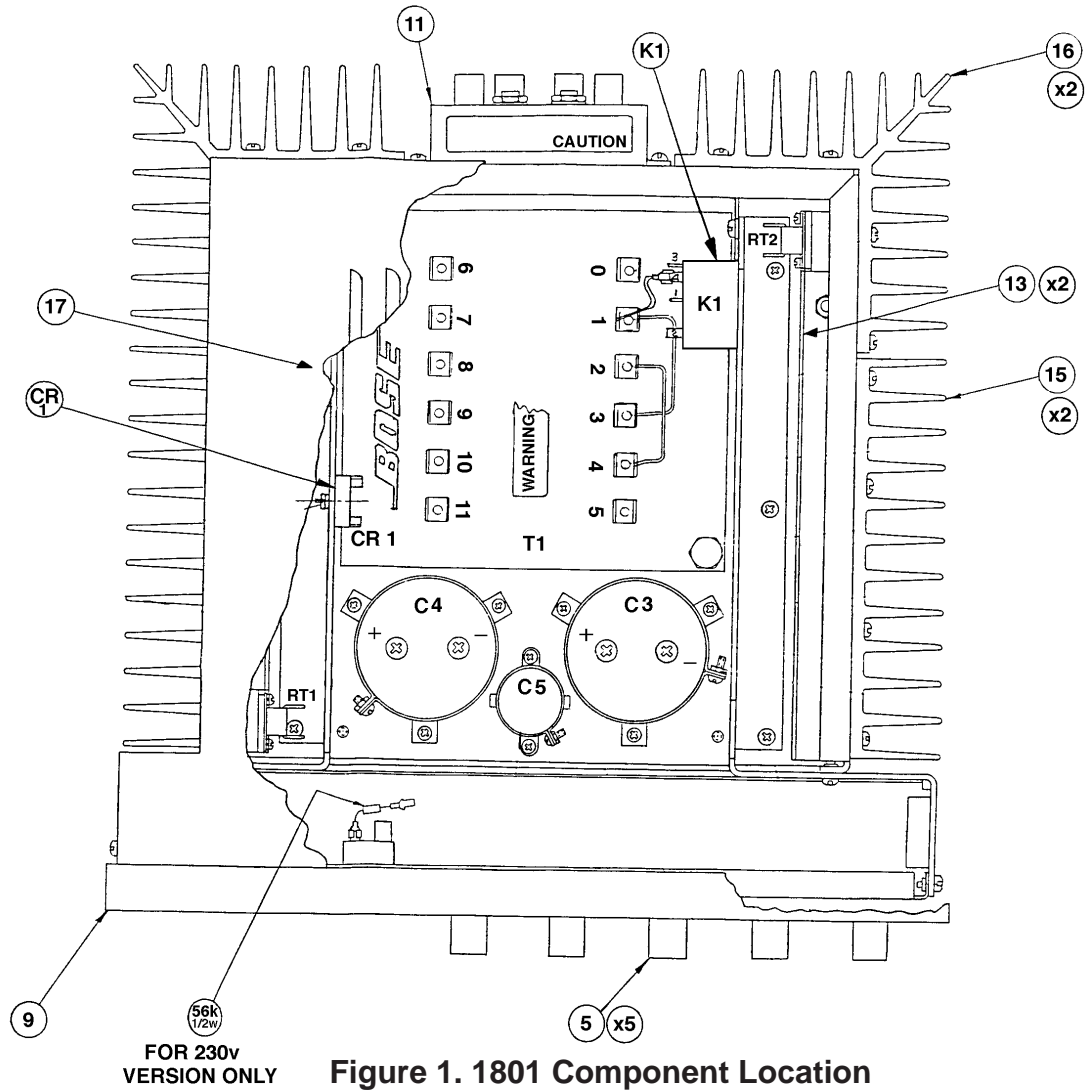

Figure 1. 1801 Component Location
**Note:** Refer to Figure 1 for the following procedures.
**1.1** Locate the -85V negative terminal found on the capacitor (C4). See Figure 1 for the location of C4.